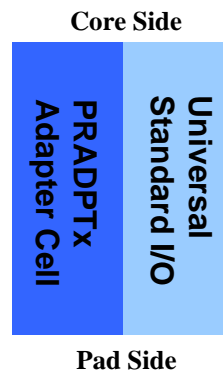

Figure 7.19 Place PRADPT_x Cell Next To Universal Standard I/O Cell
Step 2: For **PRADPT_x** adapter cell, place the right side next to the universal standard I/O cell as illustrated in *Figure 7.19*.